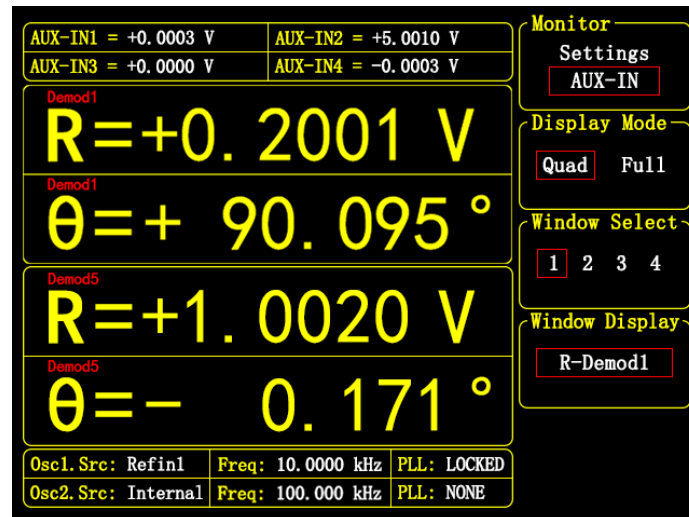

Figure 57. <AUX-IN> interface
- <AUX-IN> : Displays the real-time input voltage amplitudes of the four AUX-IN BNC connectors on the rear panel in the status bar at the top of the LCD screen. The interface is shown in Figure 57.